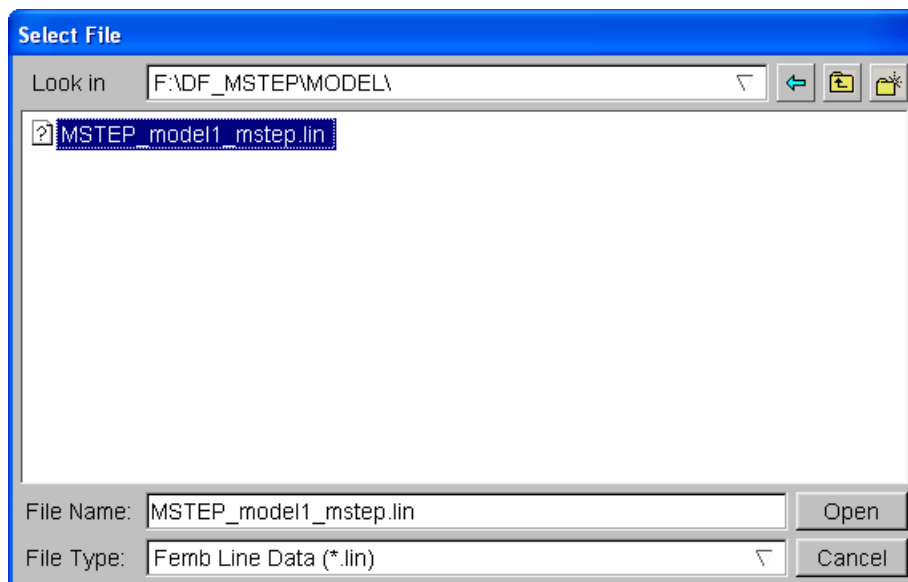

Figure 3.45: Open file dialog box
- 2) Select the file of MSTEP_model1_mstep.lin, click “Open”, and the sheet blank outline is read in, as shown in the following figures 3.45~3.46.